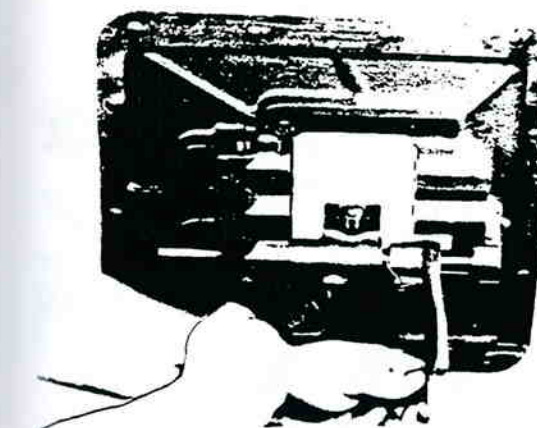

Figure 13-169. Installing Lockscrew.
3. Install lock screw in yoke and block, tighten and wire securely (figure 13-169).